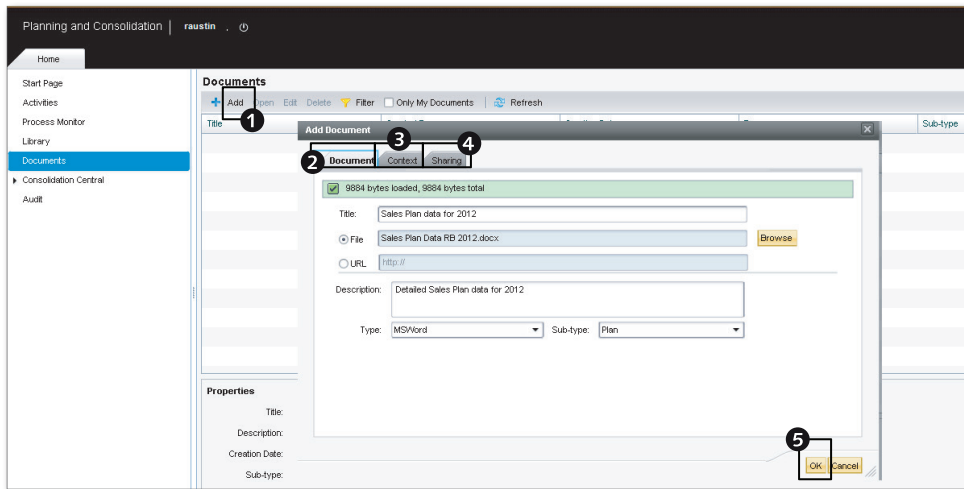

Figure 8.18 Posting a Document
2. Click on the ADD menu option under the DOCUMENTS view in the HOME workspace (Figure 8.18, ❶). In the dialog box that opens, choose DOCUMENT to add the document (Figure 8.18, ❷). Click on the DOCUMENT tab to define the file you want to add to SAP BPC. In that DOCUMENT tab, select FILE • BROWSE to select the file. Enter a title and description for the document. Select a TYPE and
3. In the CONTEXT tab, select the model to which the document should be associated. (Figure 8.18, ③). If you set the model context, you can control the document via work status settings and lock down documents that have the model context specified.
4. In the SHARING tab (Figure 8.18, ④), you can opt to select the users and teams who will have access to the document. Send an email to users who have access to this document after the document has posted.
5. Click on the OK button to add the document (Figure 8.18, ⑤).